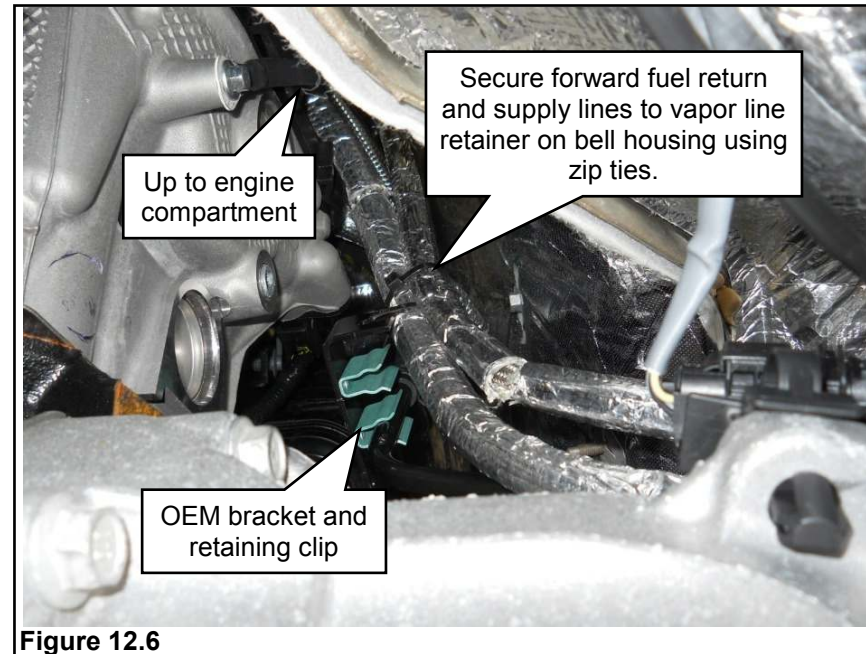

Figure 12.6
4. Press the forward fuel return lines into retaining clip in OEM bracket. **Figure 12.6.**